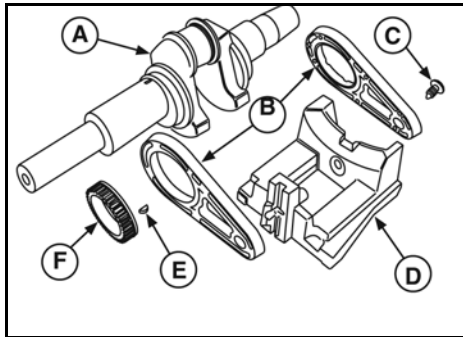

Figure 30
1. Remove the crankshaft gear (F, Figure 30) from the crankshaft (A). If the gear is tight, pry it off using two screwdrivers, being careful not to damage the gear.
2. The woodruff key (E) can be removed, if required.
3. Remove and discard the plastic alignment plug (C) from the magneto side of the counterweight (D).
4. Slide the counterweight from the counterweight links (B).